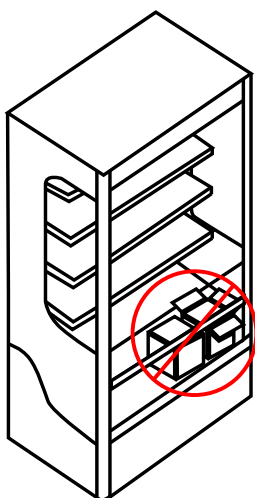

FIGURE 4
- Do not block the return vents that ensure a proper refrigerated air circulation (see fig 4).